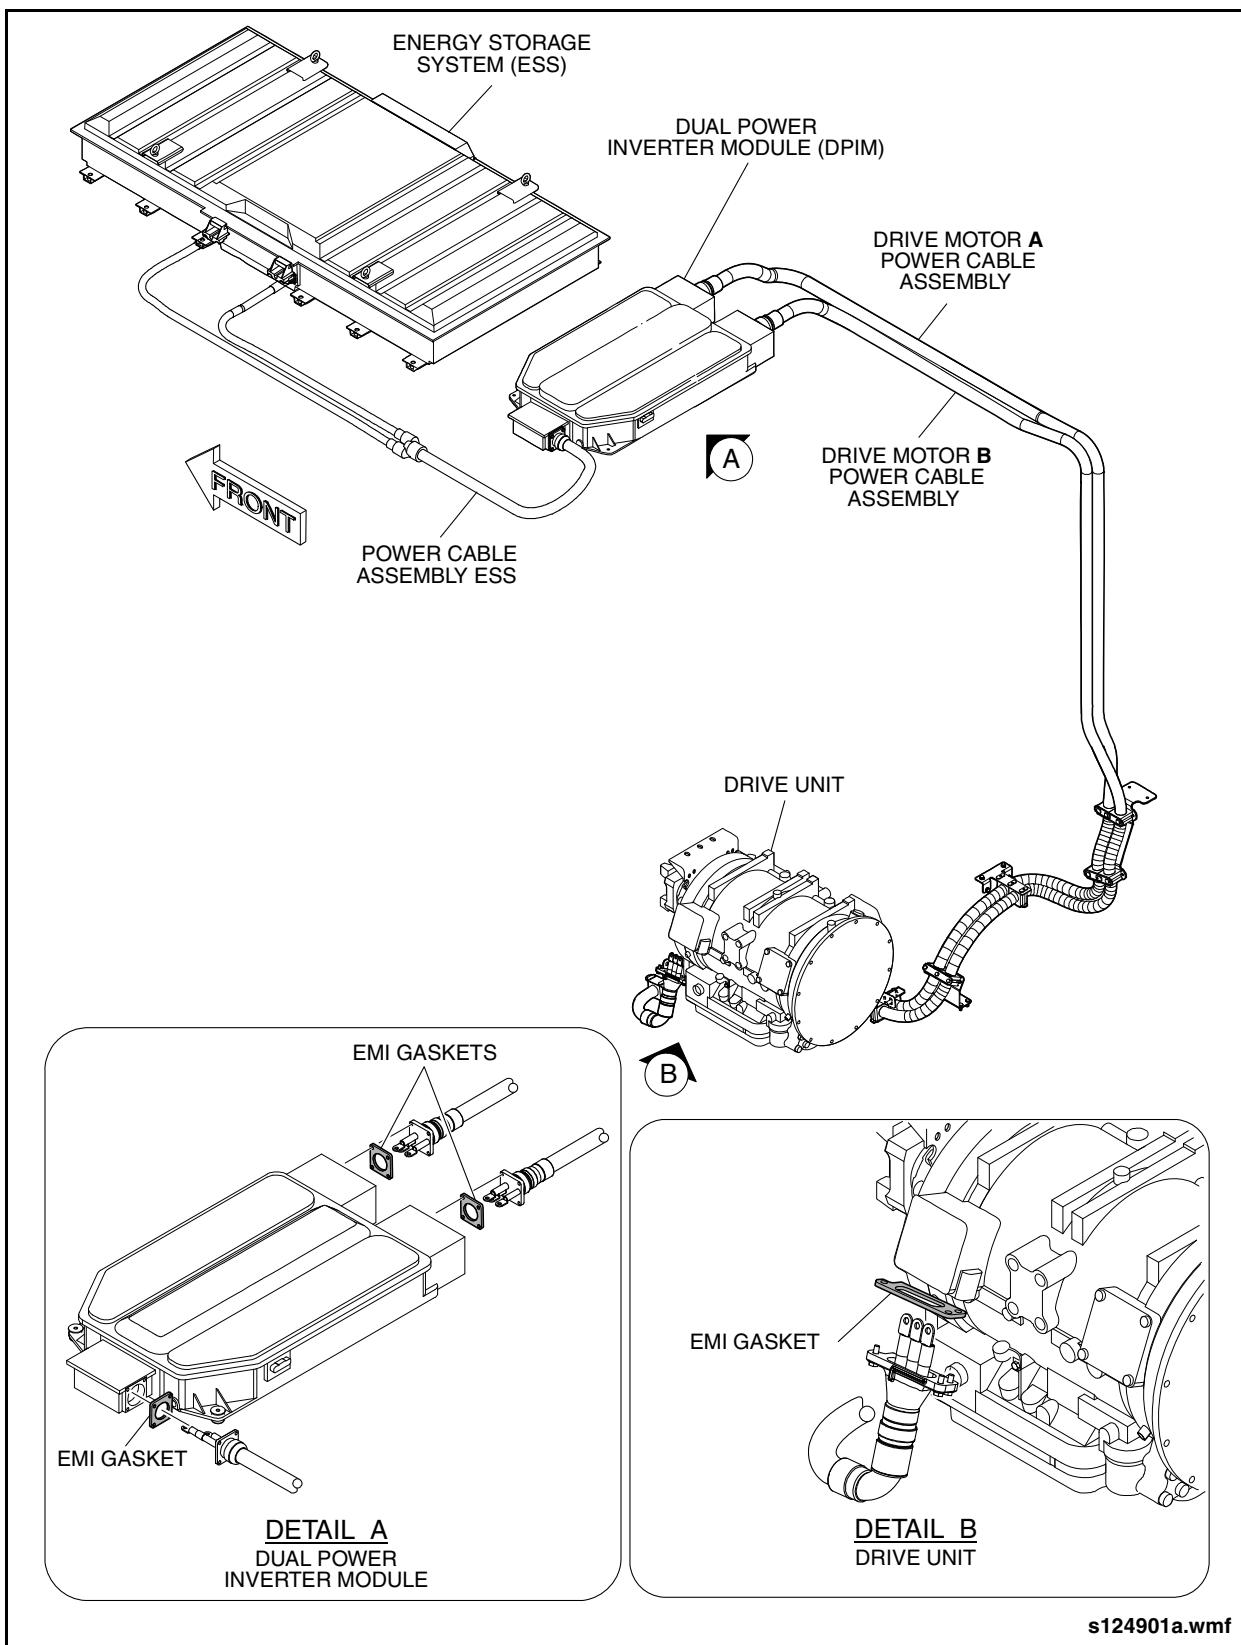

Fig. 5-13: High Voltage Cable EMI Gaskets
17. Connect lugs that retain high voltage wiring to drive unit. Install high voltage covers with new Electromagnetic Interference (EMI) gasket and torque cover bolts to 21 ft-lb. (28 Nm). See "Fig. 5-13: High Voltage Cable EMI Gaskets" on page 15.
18. Connect all electrical connectors to drive unit including main harness, (A) and (B)